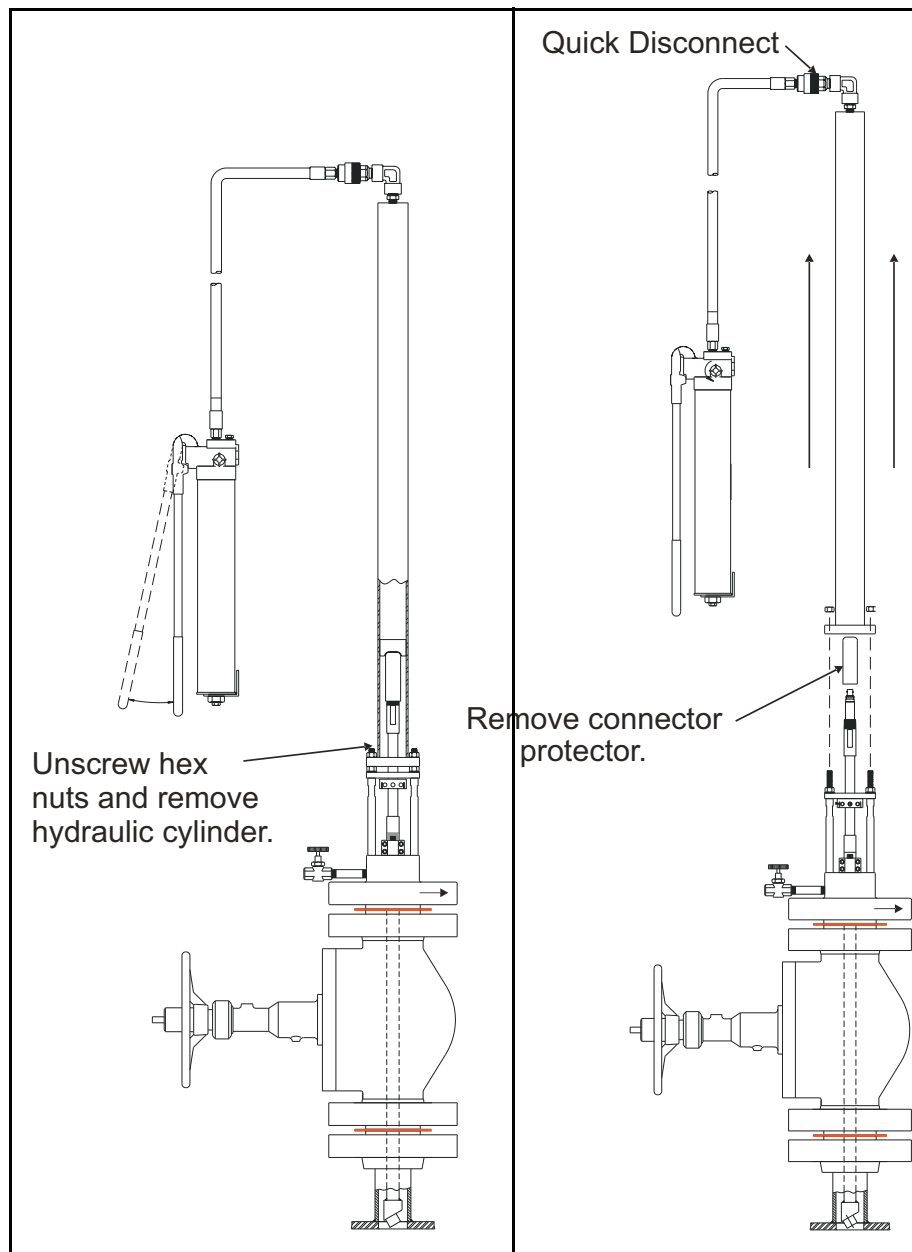

Figure 30: Removing the Hydraulic Cylinder
2. See *Figure 30* below and remove the hydraulic cylinder by unscrewing the four 3/8-16 stainless steel hex nuts.
3. Unscrew and remove the connector protector (see *Figure 30* above).